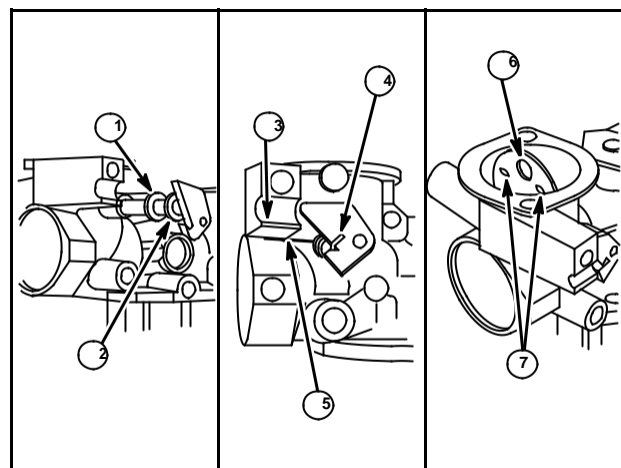

Fig. 86
1. Place metal washer (2) next to choke lever and then foam washer (1).
2. Insert shaft assembly in carburetor body with stop against remote control boss (3).
3. Insert choke plate in shaft with hole up (6) and indentations towards large welch plug (7), Fig. 86.
NOTE: On Choke-A-Matic carburetors, be sure that both ends of choke spring are engaged before sliding shaft all the way into carburetor. Lever end (4), body end (5), Fig. 86.